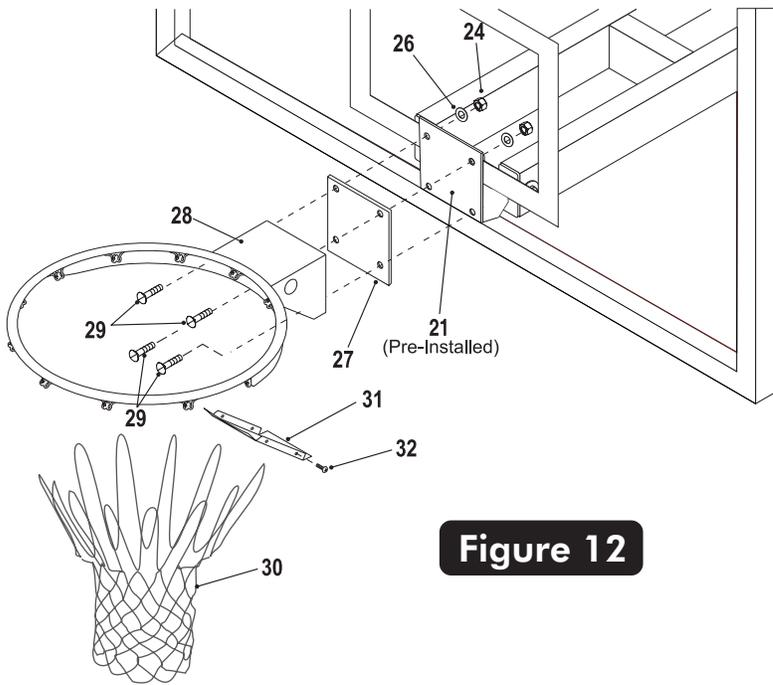

Figure 12
18. Mount Goal Assembly (#28) and Rim Pad (#27) to Backboard, as shown in Figure 12, using four bolts (#29), washer (#26) and four nuts (#24). Tighten Fasteners but leave loose enough to level rim.